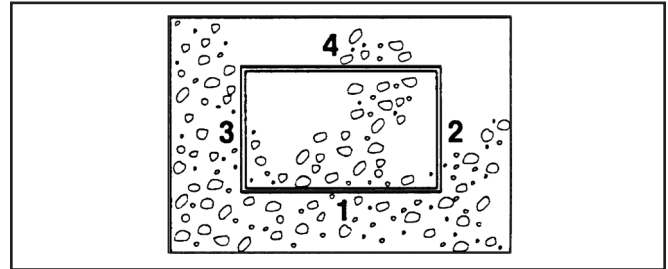

Figure 5. Planning Cuts
2. Make your cuts in the order shown in Figure 5, starting with cut 1 (base horizontal cut) and proceeding with the remaining three cuts.